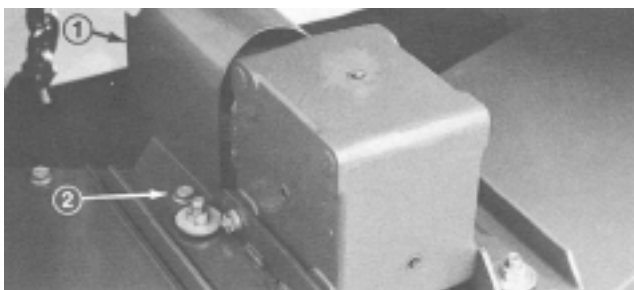

Figure 10
2. Remove two self-tapping screws holding PTO shield to top of gear box mounting plate (Fig. 10). Move cutting unit into position in front of traction unit.